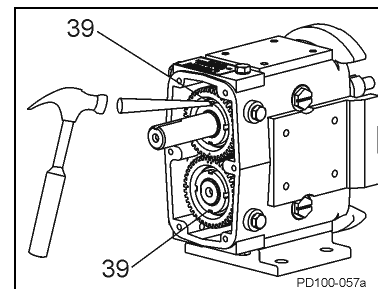

Figure 61 - Bend Lock Tab on Lockwashers
4. Bend locking tab on lockwashers into locking nut slots securing gear locknut into place (Figure 61).